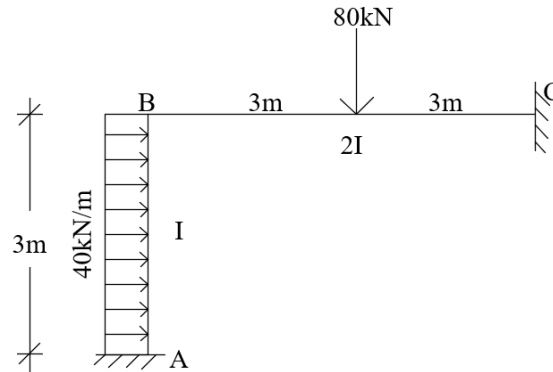

Fig. 2
- 4 Analyse the rigid frame ABCD by moment distribution method. Ends A and D are fixed. AB and CD are vertical members with moment of inertia I and length 4m . The horizontal member BC with moment of inertia $2I$ is 6m long and acted upon by a concentrated load of 100kN at 2m from B. (15)
- 5 Analyse the three-span continuous beam ABCD by Kani's method and draw BMD and SFD. Left end support A is fixed and all other supports are roller supports. Span $AB=6\text{m}$, $BC=5\text{m}$ and $CD=4\text{m}$. Span AB carries a central concentrated load of 80kN , BC carries a concentrated load of 80 kN at 2m from B and CD carries a UDL of 30kN/m . EI is constant. (15)
- 6 a) Determine the moments at A, B, C of frame shown in Fig. 2 using Kani's method and plot BMD. (7)